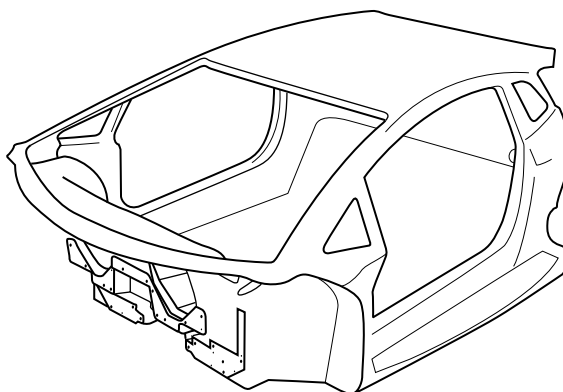

Fig. 4
- 7 Fig. 4 shows a car shell made from carbon fibre reinforced plastic (CFRP).